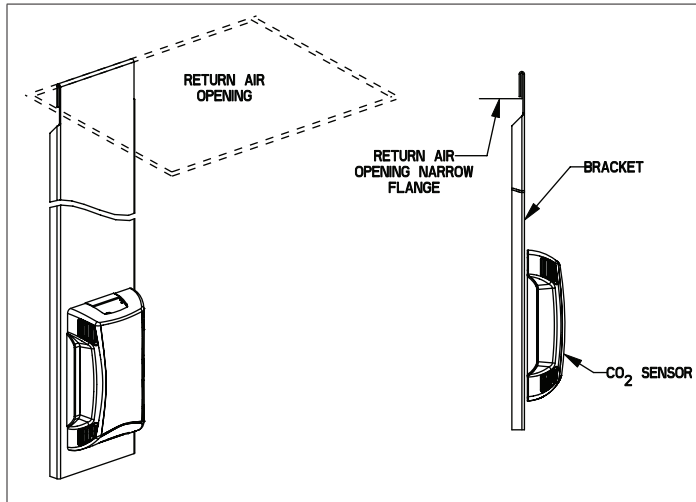
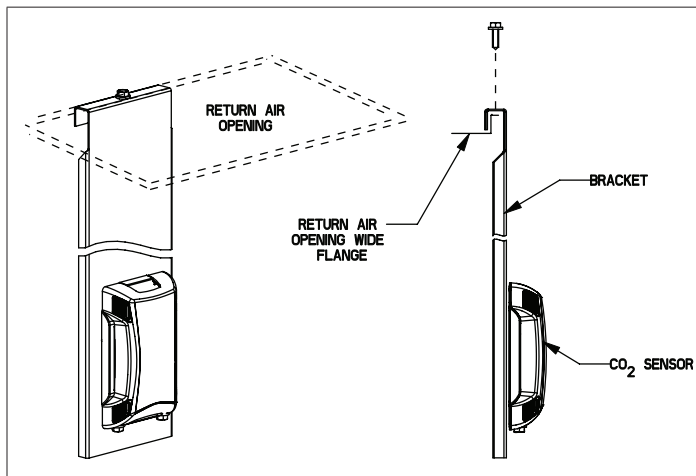

Figure 3. Install Bracket (Units with Narrow Flange)
Figure 4. Install Bracket (Units with Wide Flange)
6. Install bracket and sensor assembly on return air flange. See figure 3 when unit has a narrow return air flange. See figure 4 when unit has a wide return air flange. Retain the unused bracket for other installations.
7. Secure bracket with screw when flange is wide. See figure 4.